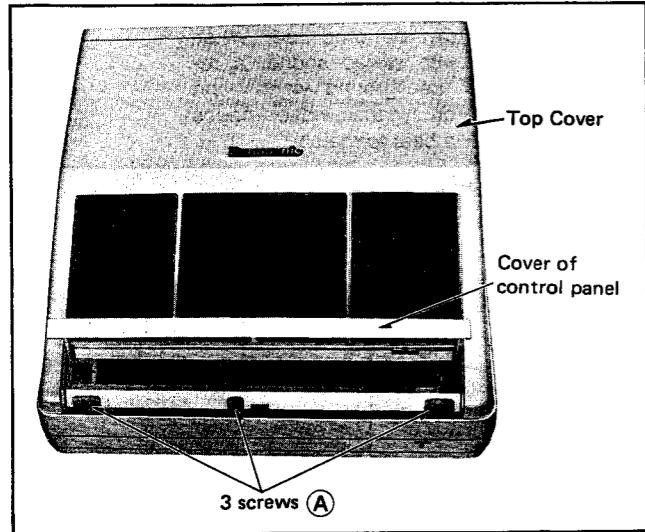

Fig. 2
- 2) Remove 3 screws **A** in fig. 2.